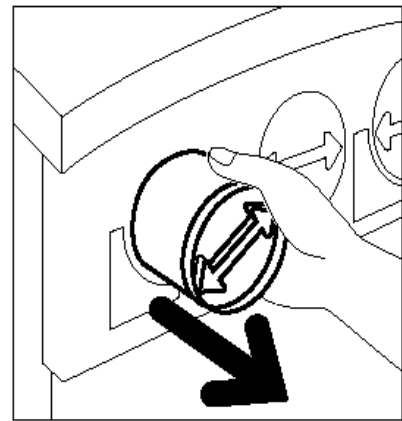

Figure 8: Pulling the Cartridge out of the copier/printer
- 4** Pull the cartridge completely out of the copier/printer, as illustrated in Figure 8. Dispose of the cartridge according to local regulations.